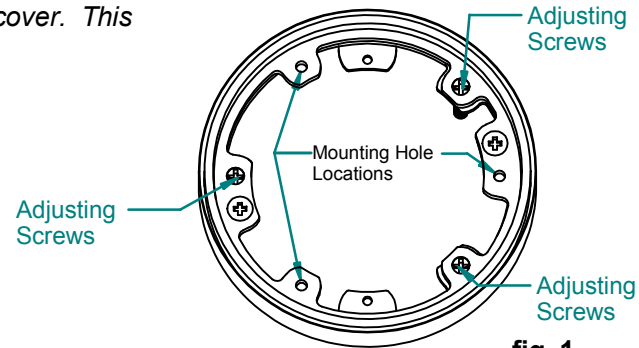

fig. 1
1. Remove and dispose protective cap. Clean out any debris from inside the floor box. Turn the (3) adjusting screws counter-clockwise until the zinc adjusting ring is level with the surrounding concrete floor (fig. 1). If thick carpet or padding is to be used, position the adjusting ring slightly above floor level.